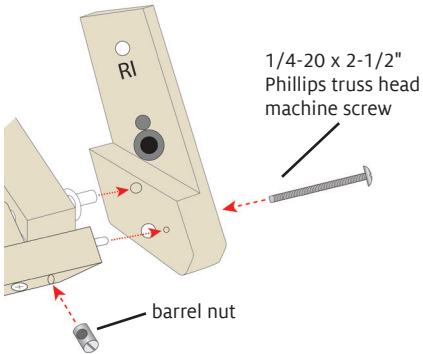

FIGURE 11: INSTALL INSIDE BLOCKS ON TREADLE ASSEMBLY
19. On the inner side of the RI height extender block, you will see two holes that do not go all the way through the block. Fit the metal treadle bar into the larger hole and the pin of the treadle support into the smaller hole, as shown in Figure 11.
20. From the outer side of the RI height extender block, you will see one hole at the bottom. Insert a 1/4-20 x 2-1/2" Phillips truss head machine screw into this hole, then partway into the treadle support (Figure 11). Insert a barrel nut into the hole of the treadle support, holding it in place with a slotted (flat) screwdriver. Fully tighten the 1/4-20 x 2-1/2" Phillips truss head machine screw into the barrel nut.